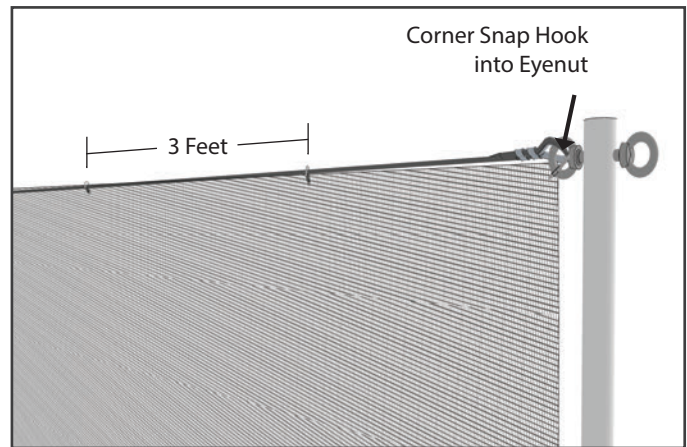

Fig. 15
1. With poles in vertical position and tied back against deck, clip corner of net into eyenut. Then clip the rest of the snap hooks onto exterior netting cable. Snap hooks are approximately 3' apart. (see figure 15)